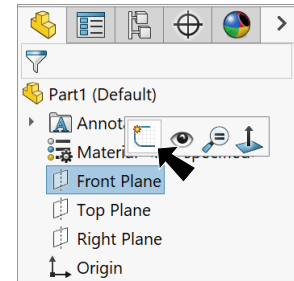

Fig. 1
- Step 2. Click **Front Plane**  in the Feature Manager and click **Sketch**  on the context toolbar, **Fig. 1**.